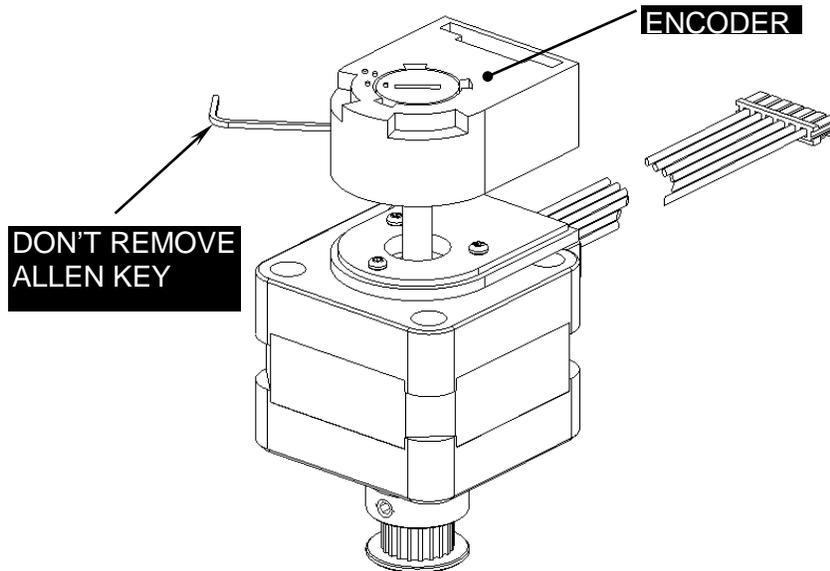

Figure 12-44: Removing the Encoder
3. Remove the main part of the encoder (Figure 12-44) by unsnapping it from the motor assembly.